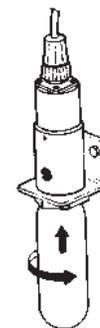

FIGURE 37
- a. Make certain puncture pin is fully retracted. See Figure 37.